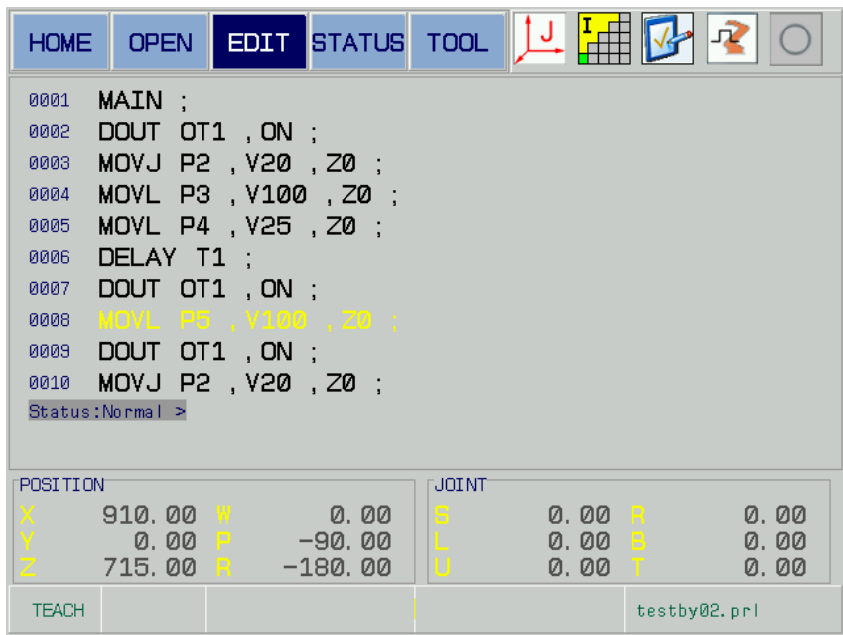

Fig. 5-45
4. Lastly, press the [COPY] to complete the copy operation; refer to the Fig. 5-45.